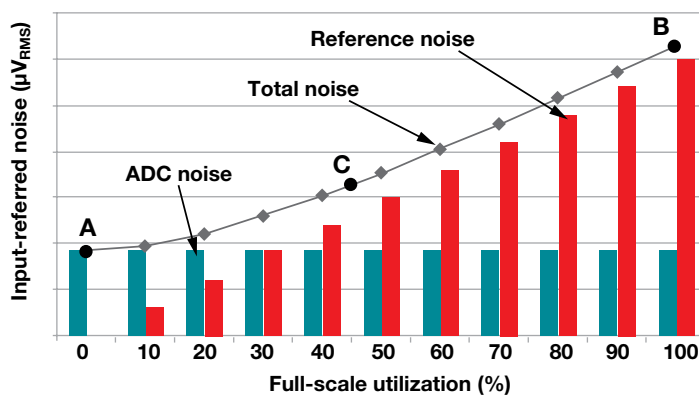

Figure 6. ADC noise, reference noise and effective resolution as a function of FSR utilization.
The amount of reference noise that enters a data-acquisition system depends on the reference source's noise performance as well as the percent utilization of the FSR. To demonstrate this reliance on percent utilization, I plotted ADC noise, reference noise and total noise as a function of the full-scale utilization (input voltage), assuming a 2.5-V reference. **Figure 6** shows a plot of this relationship using the TI ADS1261, a 24-bit delta-sigma ADC with an integrated PGA.
- Choose a lower-noise reference.** One of the most obvious ways to reduce the level of reference noise entering a system is to choose a voltage reference with less noise. This has the effect of reducing the level of the red bars in **Figure 6** and extending the useful FSR utilization limit. But as I suggested in Section 4.1, take care to match the level of reference noise to the level of ADC noise for any given input signal. For example, if you sample a 2.5-V input signal using the ADS1261, you could only use a gain of 1 V/V. In those circumstances, choosing a voltage reference with less noise than the REF6025 will likely have little effect on overall system noise, since the FSR utilization is so high in **Figure 6**.